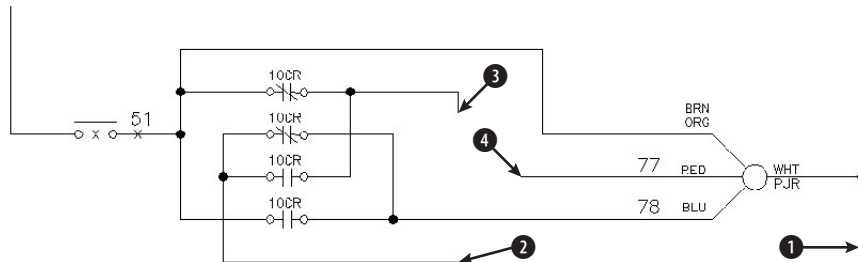

Figure 10-20: An electrical schematic
2. Save the file as `ab10-06.dwg` in your AutoCAD Bible folder. It looks like Figure 10-20.
3.  Choose **Extend** on the Modify toolbar. At the **Select objects:** prompt, pick the line at **1** in Figure 10-20 and then press Enter.
4. At the **Select object to extend or shift-select to trim or [Project/Edge/Undo]:** prompt, pick the line at **2** in Figure 10-20. Press Enter to finish selecting objects. AutoCAD extends the line.
5. Repeat the **EXTEND** command. At the **Select objects:** prompt, pick the lines at **3** and **4** in Figure 10-20 and then press Enter.
7. Pick lines **3** and **4** in Figure 10-20 again at the points shown. AutoCAD extends the lines to meet. Press Enter to end the command.